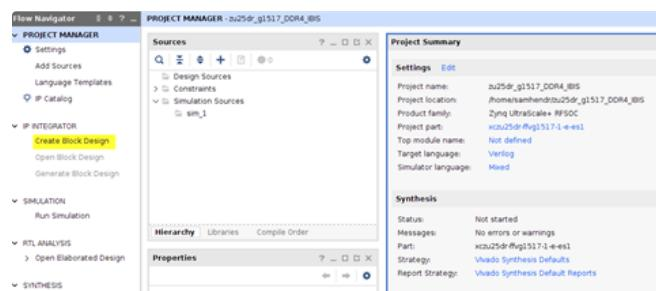

Figure 19: Create Block Design
- When the new project is ready, create a block design in the IP Integrator (Figure 19)